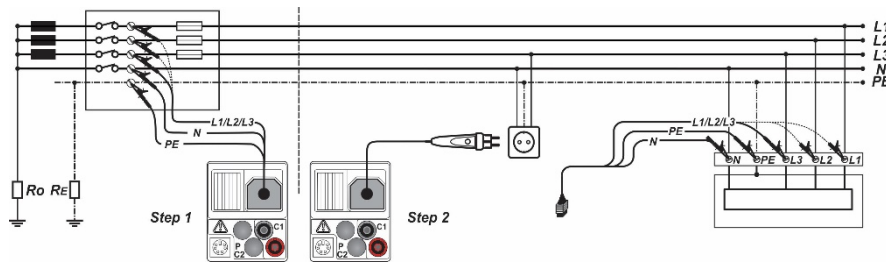

Figure 5.30: Connection of the optional "Commander" test plug (044149) and the three-wire test cable
- ❑ Connect the test cables to the test object (see figure 5.30).